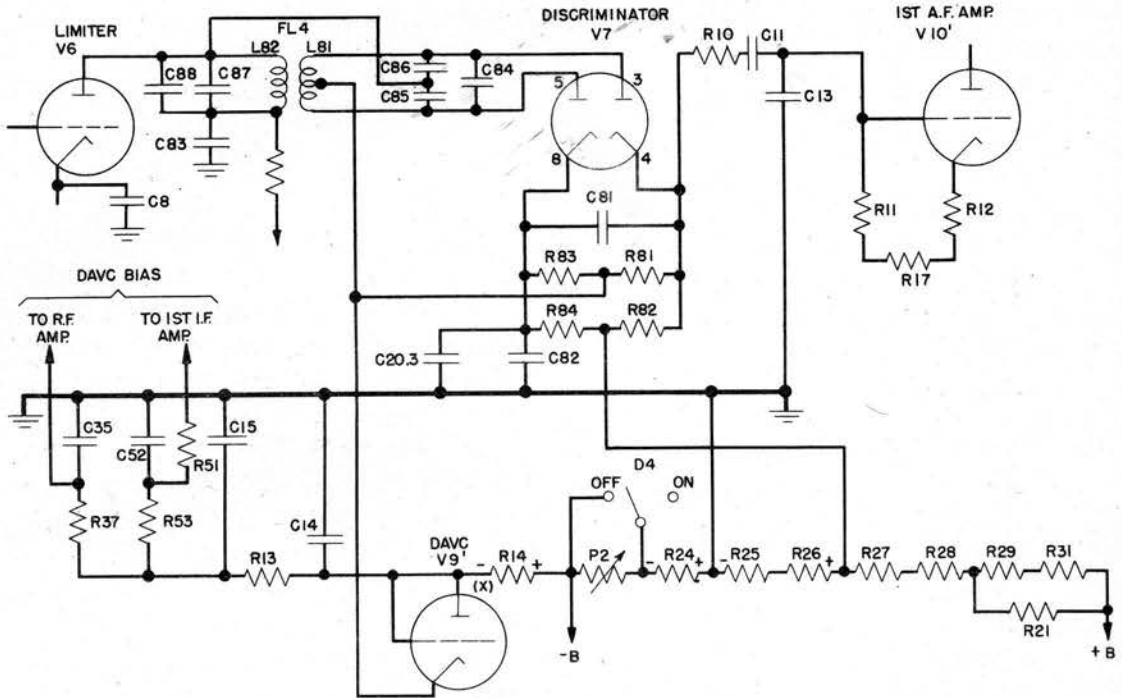

Fig. 29. Radio Receiver BC-683-A: Functional Diagram of Delayed-automatic-volume-control Circuit
*f. Voltage Divider.* The voltage divider which is shown in the lower part of Fig. 29 serves three general functions:
(1) It constitutes a bleeder across the high-voltage direct current from the filter to discharge the capacitors when the power supply is not in use.
(2) It provides the reduced positive voltages required by the second intermediate-frequency amplifier, the limiter, the delayed-automatic-volume-control, and the squelch circuits.
(3) It provides negative grid bias for the radio-frequency and intermediate-frequency amplifiers as well as the limiter.
*b. Delayed-automatic-volume-control Circuit.* A functional diagram of the delayed-automatic-volume-control circuit is shown in Fig. 29.
The circuit arrangements for providing the automatic-volume-control actions are described in more detail as follows (referring again to Fig. 29): The cathode of the automatic-volume-control diode V9' is connected through R81 and R82 in parallel with R83 and R84 to the junction of R26 and R27 on the voltage divider, then through resistors R25 and R26, to ground. The plate and grid are both connected through R14 to the negative end of the dynamotor; thus they are negative with respect to the cathode when